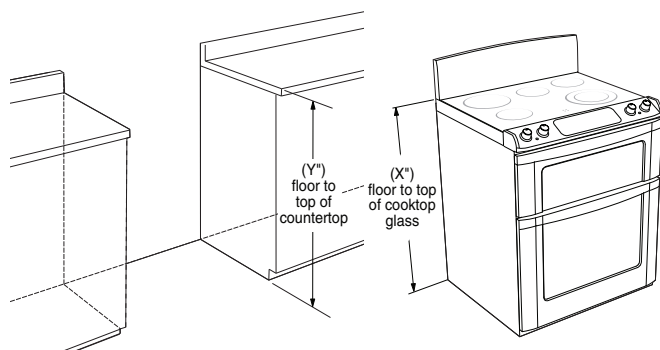

Figure 16
- Adjust the back leveling legs with an adjustable wrench or pliers. Measure from the floor to the top of the cooktop glass (X) and adjust the legs to match the measurement (Y) taken from the cutout. See Figure 16.